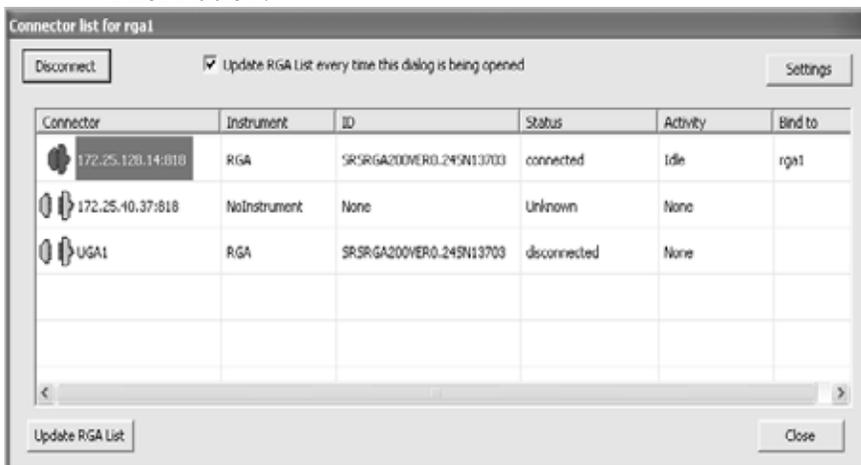

Fig. 2-30. Screenshot of RGA connection dialog box for Ethernet.
- Click the connection button (). The dialog box as seen in Fig. 2-30 will appear with Ethernet port information.